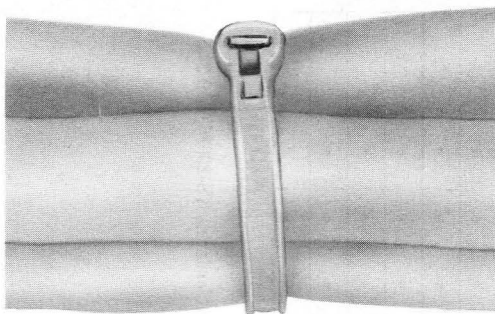

Fig. 12—KS-20986 Cable Tie
6.05 The C (MD) cable ties and D (MD) cable ties are plastic straps having ratchet buckle and tapered point ends. Detents allow a range of adjustments and permit easy release and reuse. The C cable ties are used as straps for the B adhesive cable tie. The C and D cable ties have been replaced by the KS-20986, List 4 cable ties (Fig. 12). The KS-20986,